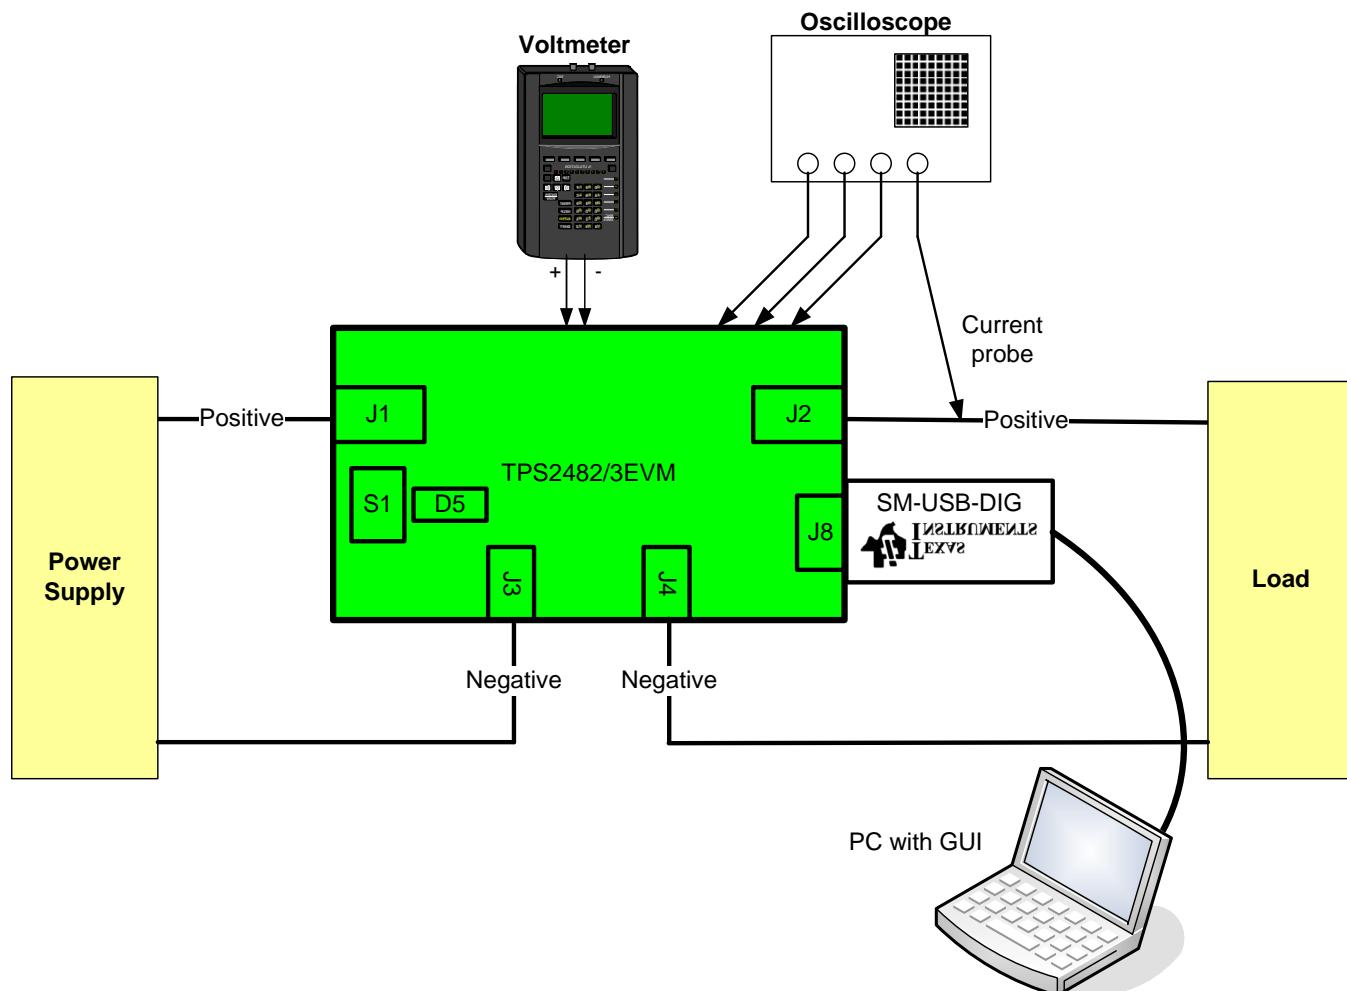

Figure 2. Typical TPS2482 and TPS2483 EVM Test Setup
Figure 2 shows a typical test setup for TPS2482 and TPS2483EVM.
Figure 2 shows a typical test setup for TPS2482 and TPS2483 EVM. Input voltage can be applied as described in Table 2.
- Connect the PC to the UUT J8 using the SM-USB-DIG and Type A Male to Type A Female USB v2.0 extension cable. Orient the SM-USB-DIG so that the TI bug is oriented as shown in Figure 2.